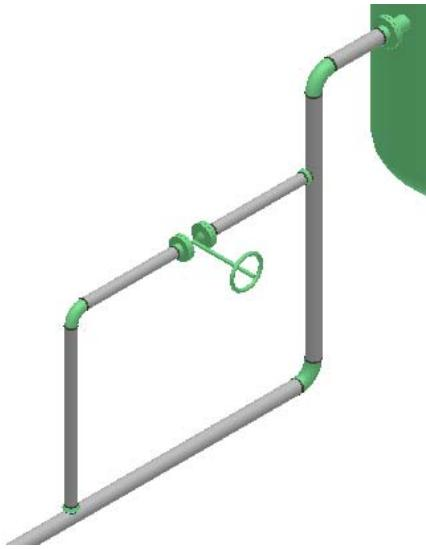

Figure 39: Placed Gate Valve
21. Click **Finish** on the **Insert Component** ribbon to place the gate valve, as shown in Figure 39.